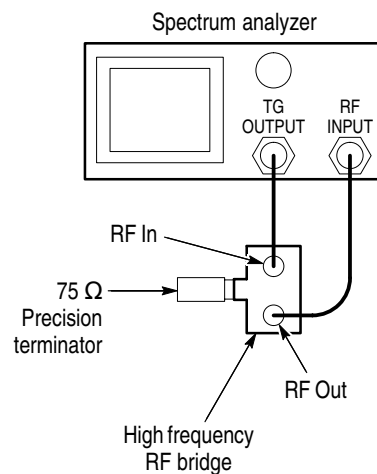

Figure 5–9: Connecting the RF bridge to the spectrum analyzer/tracking generator
1. Connect a 50 Ω coaxial cable from the spectrum analyzer RF In to the RF Out on the RF Bridge. See Figure 5–9.